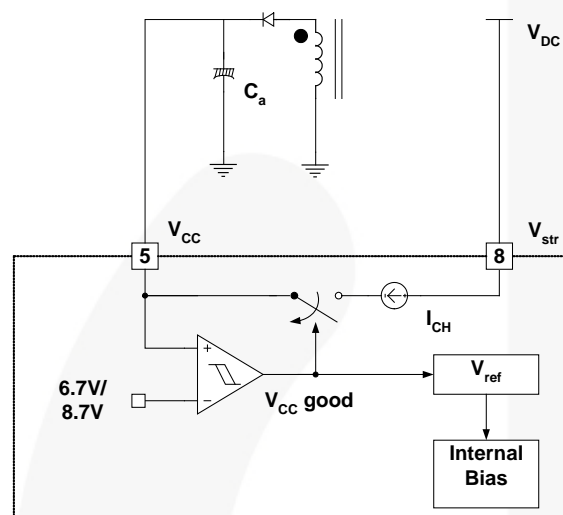

Figure 13. Startup Block
1. Startup: At startup, an internal high-voltage current source supplies the internal bias and charges the external capacitor (C_a) connected to the V_{CC} pin, as illustrated in Figure 13. When V_{CC} reaches 8.7 V, the FPS begins switching and the internal high-voltage current source is disabled. The FPS continues normal switching operation and the power is supplied from the auxiliary transformer winding unless V_{CC} goes below the stop voltage of 6.7 V.